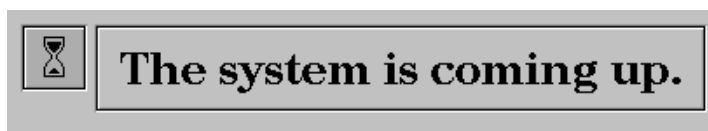

Figure 1-32 Starting Up the System Notifier
3. Click *Restart*. You see the system startup message shown in Figure 1-32.